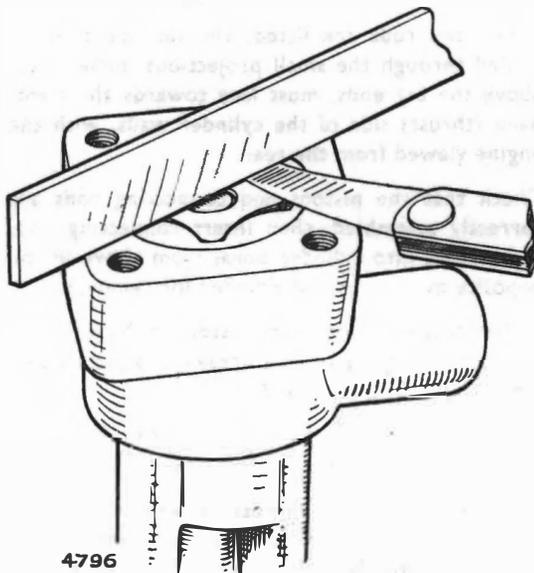

Fig. 37. Checking pump rotor end clearance
1. End clearance between the inner and outer rotor ring and pump body. The maximum and minimum clearances are $\cdot003$ " ($\cdot076$ mm.) and $\cdot001$ " ($\cdot025$ mm.) when measured with a feeler and straight edge as illustrated in Fig. 37.